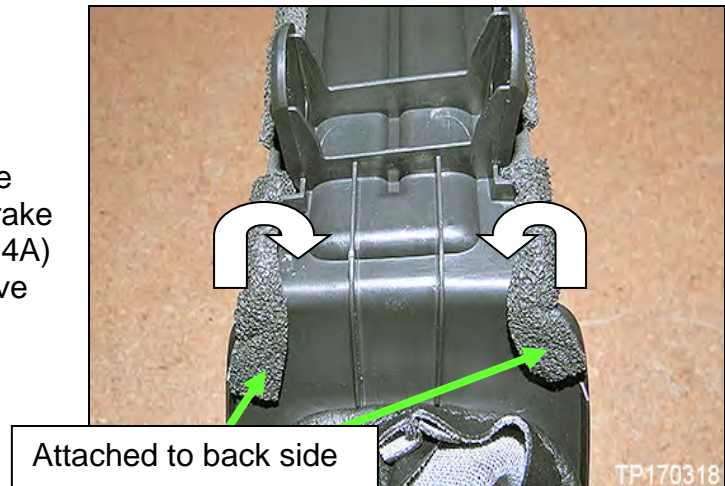

Figure 14A
- d. Roll the foam around to the back side of the parking brake finisher (shown in Figure 14A) and then press the adhesive down firmly.